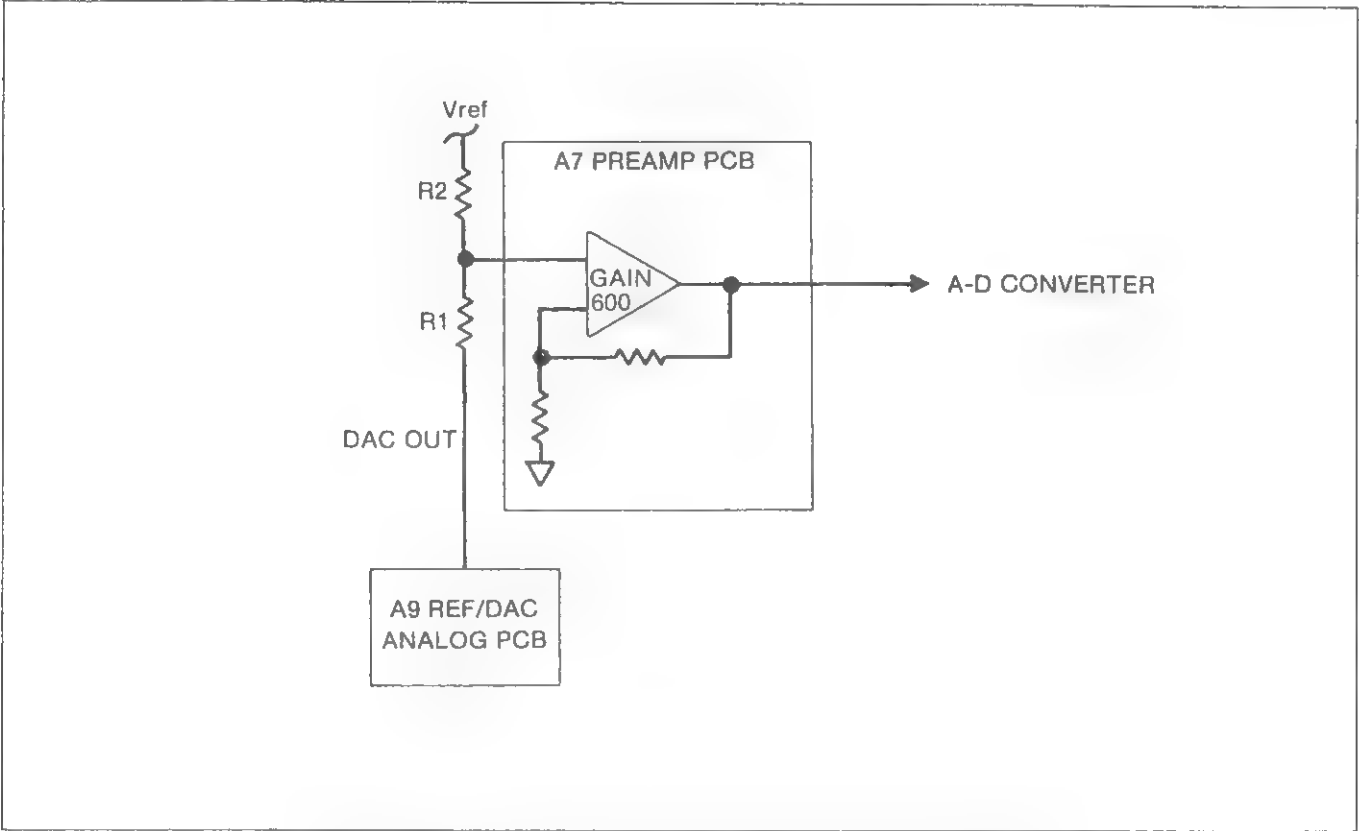

Figure 6-8. A7 Preamplifier Configuration During Internal Calibration
3. Next, the internal calibration program measures internal amplifier gain shifts. The A7 Preamp PCB is used in a dc amplifier configuration (Figure 6-8) with a gain of 600 to determine resistor gain errors in the A9 REF/DAC Analog PCB and the A6 Sample String PCB. The shifts in gain are determined by comparing the new measurements to the measurements made during the last internal calibration.